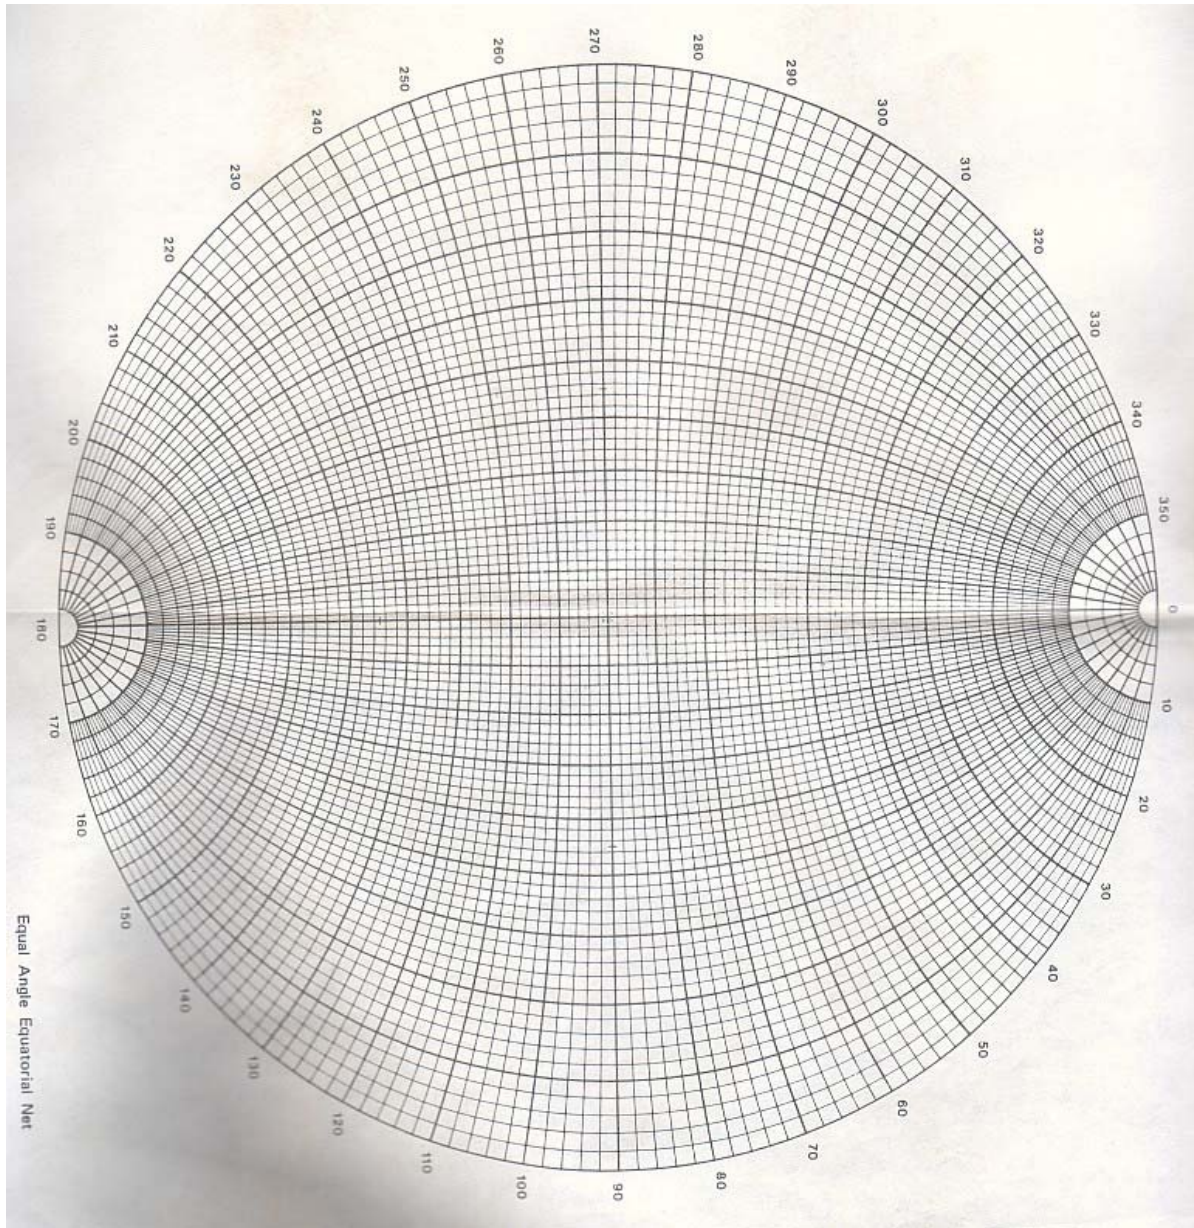

Figure 3
3. A joint with angle of friction of 35° dips 50° N30W. A block weighing 200 MN rests on the joint. The slope arrangement allows the block to slide (stereonet is given as Figure 3)
4. A cut is to be made in N50W – S50E direction, with rock cut to face the direction of N40E. Assume the angle of friction for all joints as 25°. The following joint data (Table 1) represent those of a rock mass (stereonet is given as Figure 3).